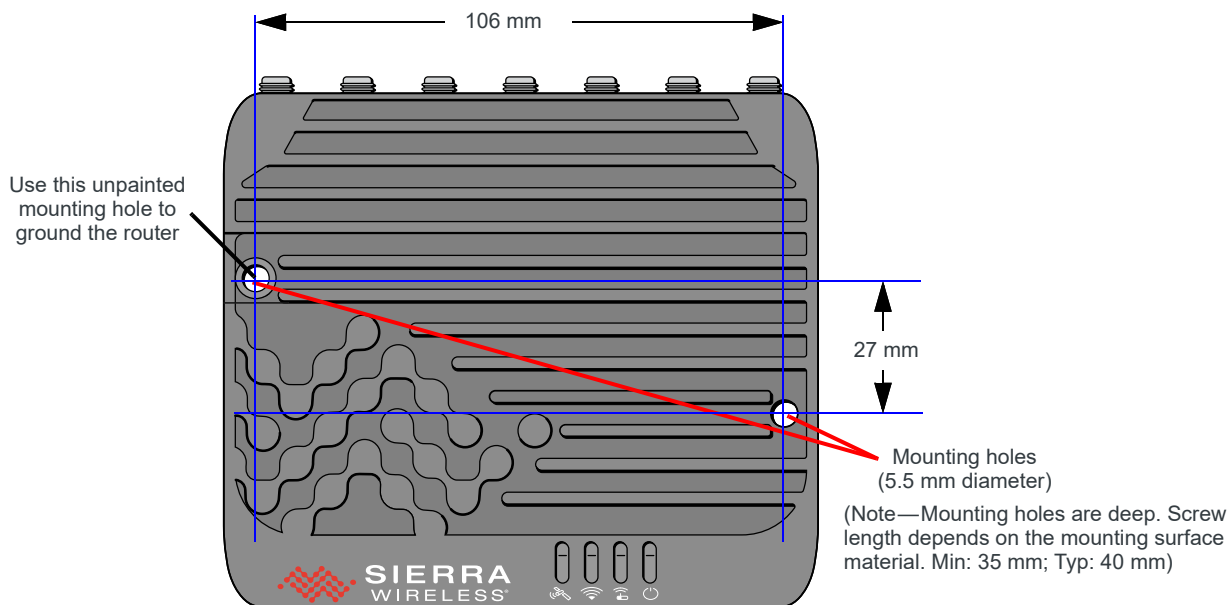

Figure 2-2: XR60 Router Mounting Holes
Semtech strongly recommends always grounding the router using the unpainted mounting hole (grounding point) shown in Figure 2-2 on page 24.
The XR60 router has 2 mounting holes, as shown in Figure 2-2. For mounting screw specifications (including recommended screw lengths), see Screw Specifications on page 71.
- Connect one end of a short 18 AWG or larger gauge wire to the unpainted upper left mounting hole (see Figure 2-2) and connect the other end to the system ground reference or (if mounted in a vehicle) the vehicle chassis.